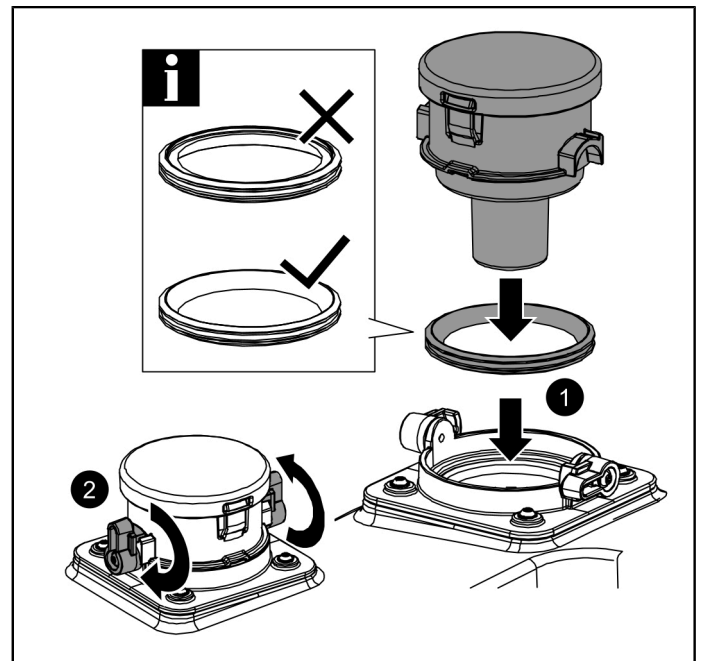

Abb. 6: e
- ⓘ Make sure that the seal between the accessories and the drain body fits properly (see Fig 6 e).